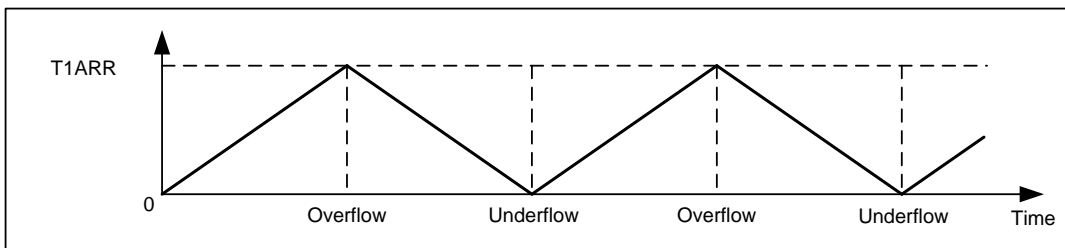
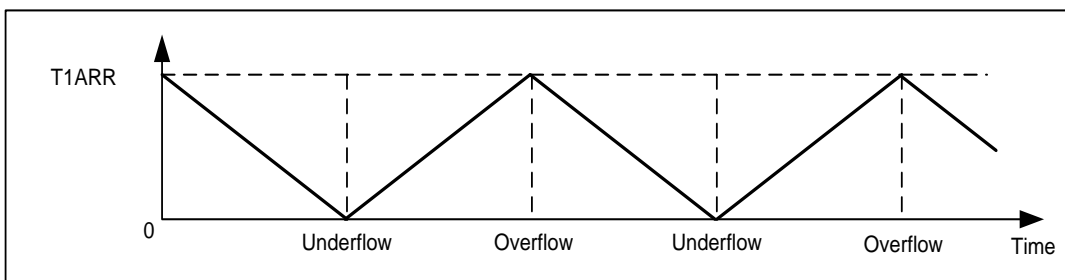

Figure 7-7 Center-aligned mode ($T1DIR$ initialized to 0)
Figure 7-8 Center-aligned mode ($T1DIR$ initialized to 1)
- **Center-aligned mode** (Upward/downward counting, $T1CMS \neq 00$): The initial direction of counting depends on the $T1DIR$ register value (as shown in Figure 7-7 and Figure 7-8), and the initial value of counting is $T1CNT$. If $T1DIR$ is initialized to 0, the counter starts counting up from $T1CNT$ and generates an overflow event when $T1CNT = T1ARR$; then the counter starts counting down from the value of $T1ARR$ and generates a downflow event when $T1CNT = 0$. And then the counter starts counting up from 0 and keeps repeating the above process.